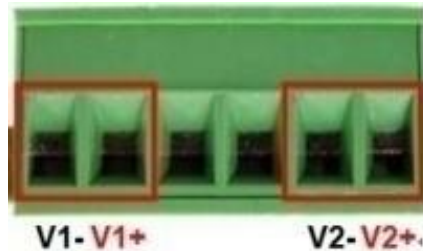

Figure 2.7.1
1. Insert the positive and negative wires into the PWR1 (V1+, V1-) and PWR2 (V2+, V2-) contacts on the terminal block connector as shown below in *Figure 2.7.1*